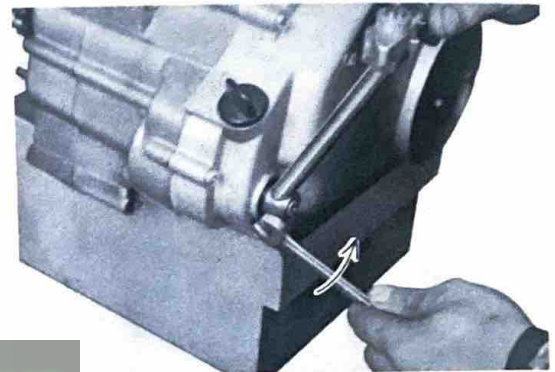

Fig. 4-7-1
a. Remove the kick starter crank clamping bolt, and remove the crank. (Fig. 4-7-1)